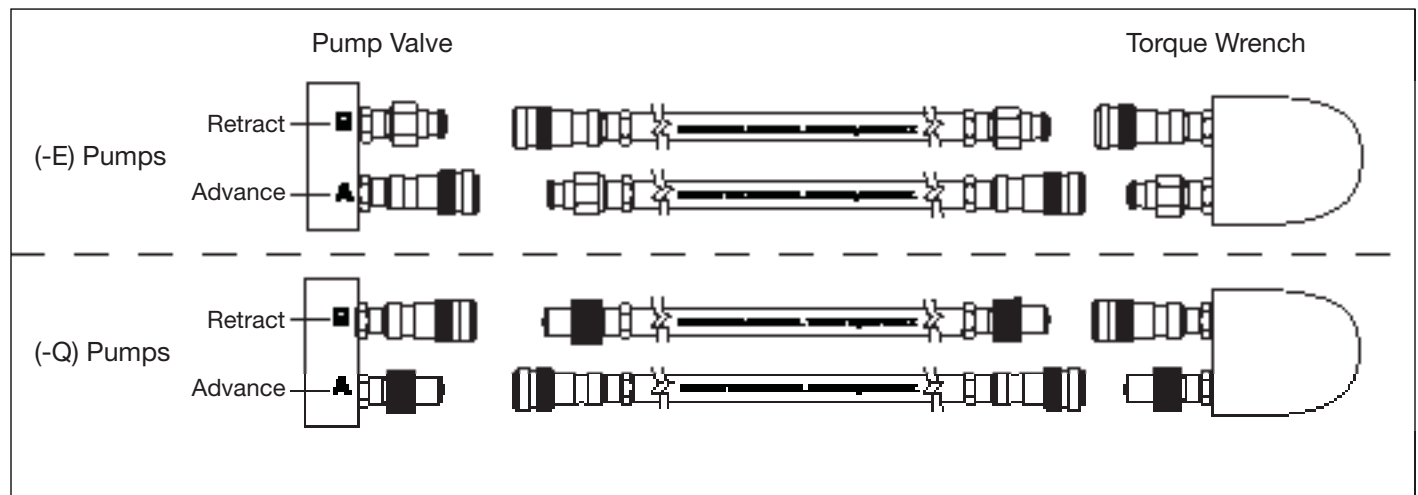

Figure 5, Hose Details
Connect hoses as shown in Figure 5.
2. (-Q) Pump type for Enerpac S and W torque wrenches and other brands: Use hoses marked "Enerpac THQ-700 series - 700 bar/10,000 psi max." Couplers must be polarized per Figure 5 for correct wrench operation. Ensure couplers are fully engaged and tightened before operating. Partial coupler engagement will prevent proper wrench operation.